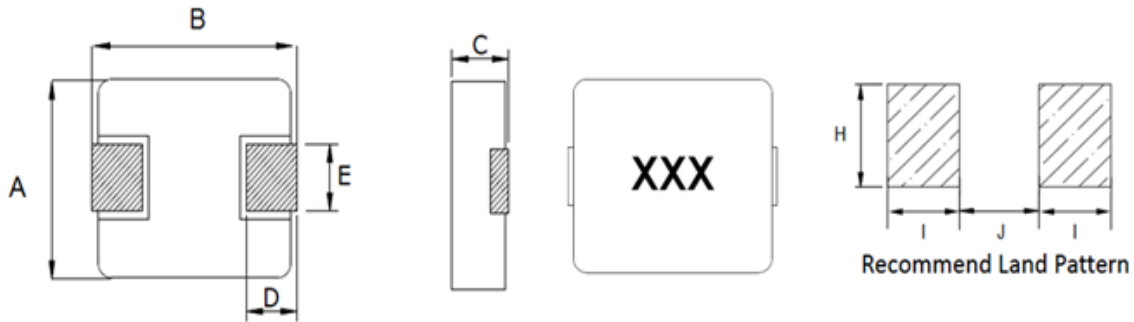

Fig.4-1
1) Dimensions and recommended PCB pattern for reflow soldering: See Fig.4-1 、 Fig.4-2 and Table 4-1